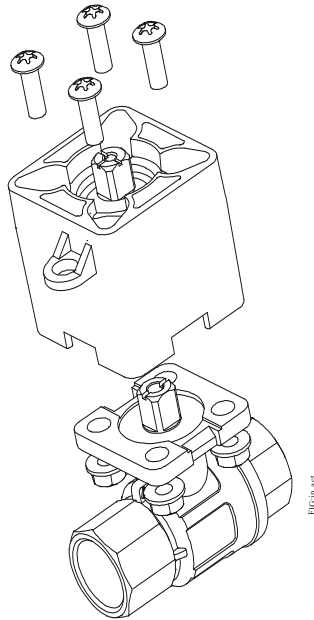

Figure 18: Installing the barrier
3. Mount the thermal barrier onto the valve using the four included M5x16 mm machine screws and four M5 flange nuts. Tighten the screws to a recommended torque of 21 to 25 lb·in. (2.4 to 2.8 N·m).(Figure 18).